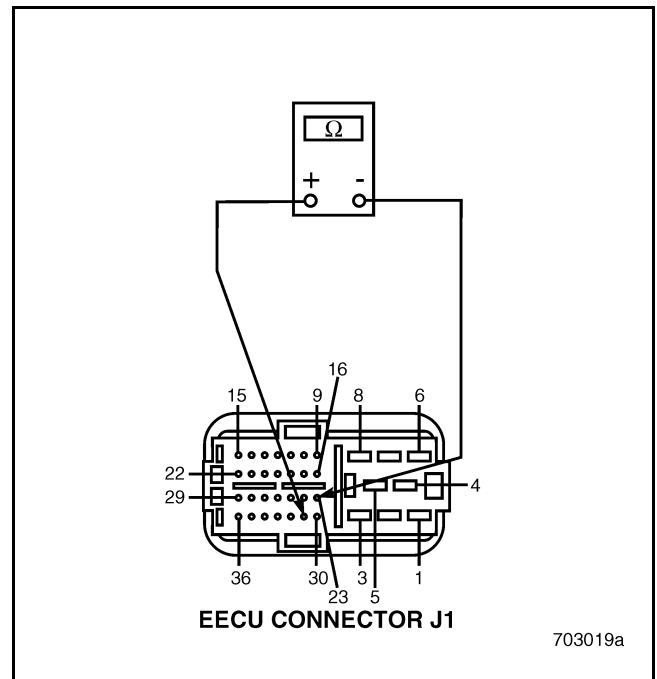

Figure 602
3. Measure the resistance between EECU connector J1 pin 23 and EECU connector J1 pin 31 (see Figure 602).